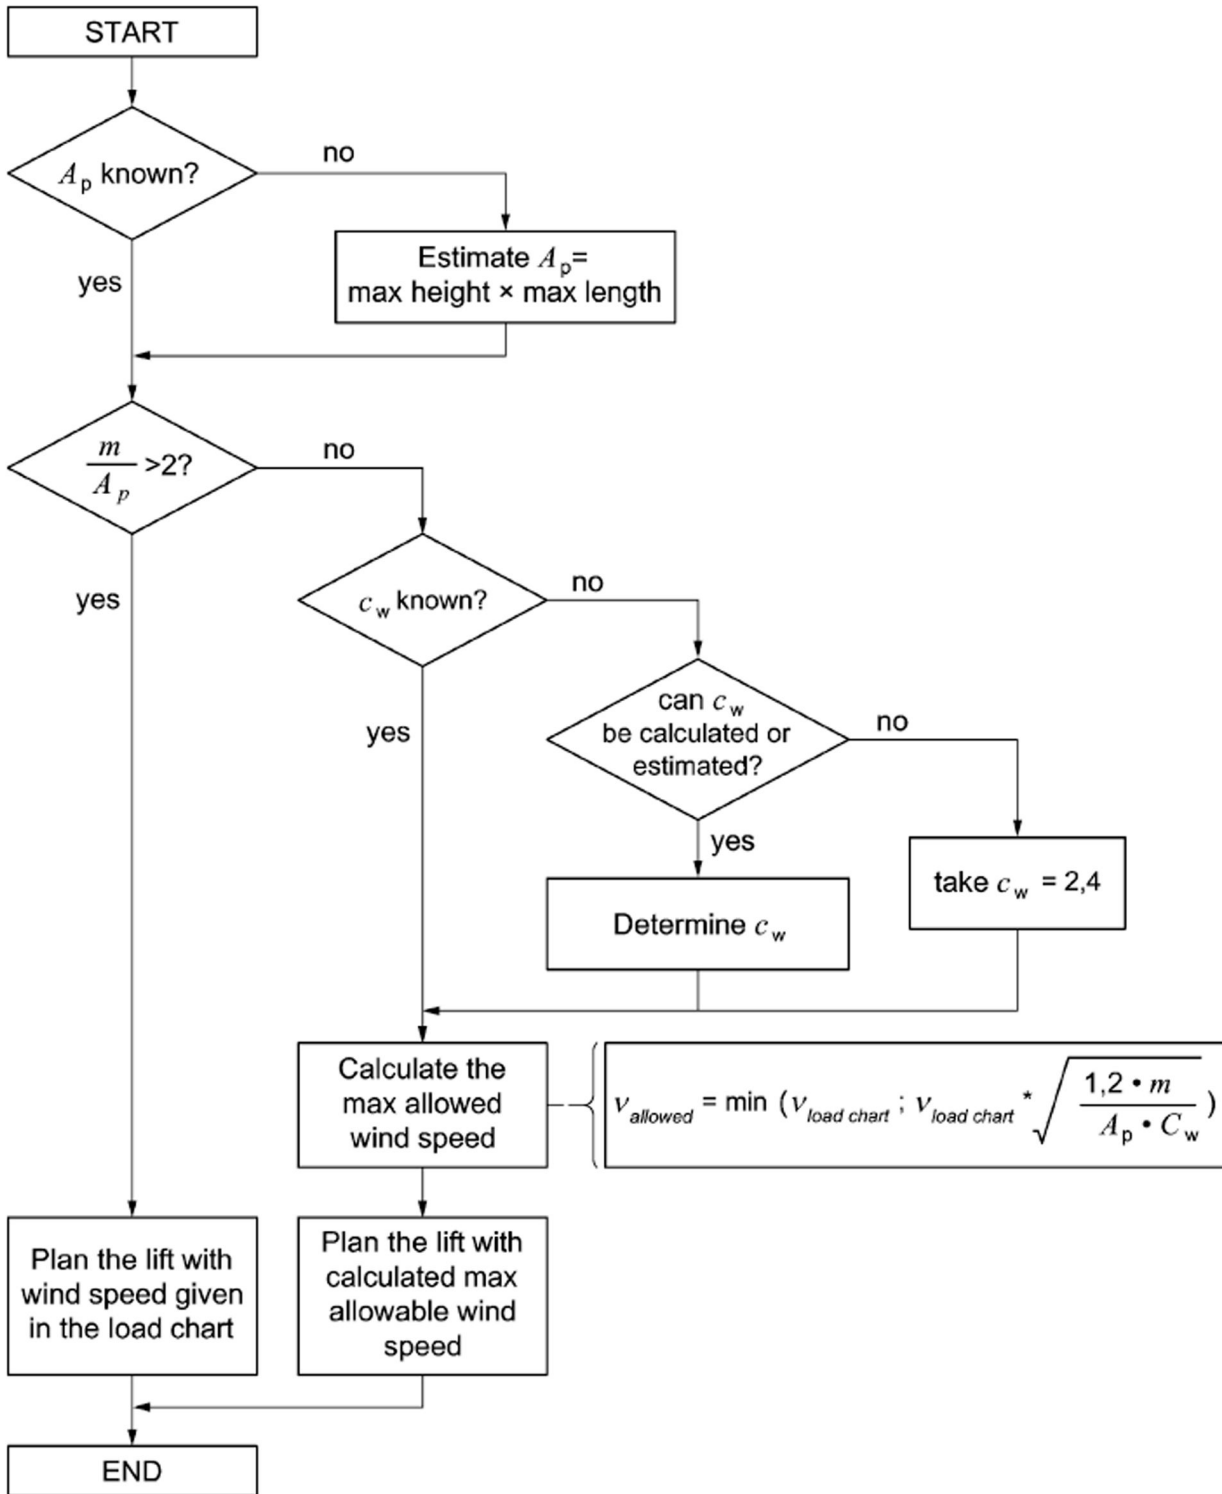

Fig. 724: Simplified method to determine the maximum admissible wind speed in accordance with EN 13000 Appendix N
- ▶ Note that the area exposed to wind of the load considered in the load calculation is 1.2 m²/t (cw value as factor already considered). If the load's area that is exposed to wind is larger: Calculate maximum permissible wind speed (see: fig. 724, page 594) or contact Liebherr customer service. Loads may not be picked up until this evaluation has been performed.